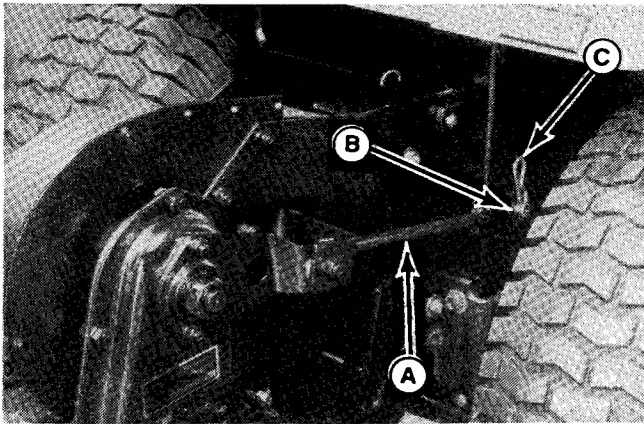

Figure 11.
10. Install support rod (A, Figure 11) to frame pin (B) and secure with spring clip (C).
5. Remove spring clip (C, Figure 11) from pin (B) and remove support rod (A).